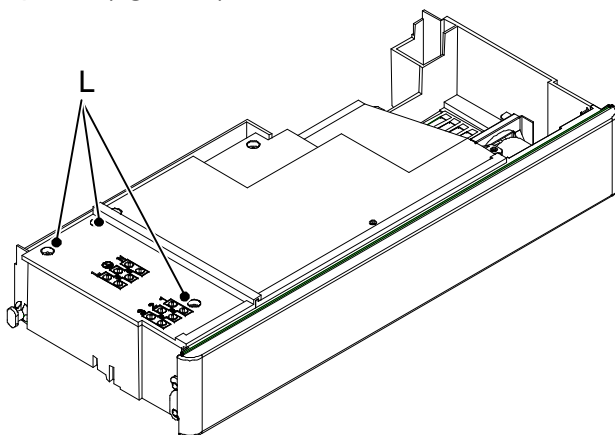

fig. 6.12
- 5 Loosen the screws L and remove the service panel (fig. 6.12).